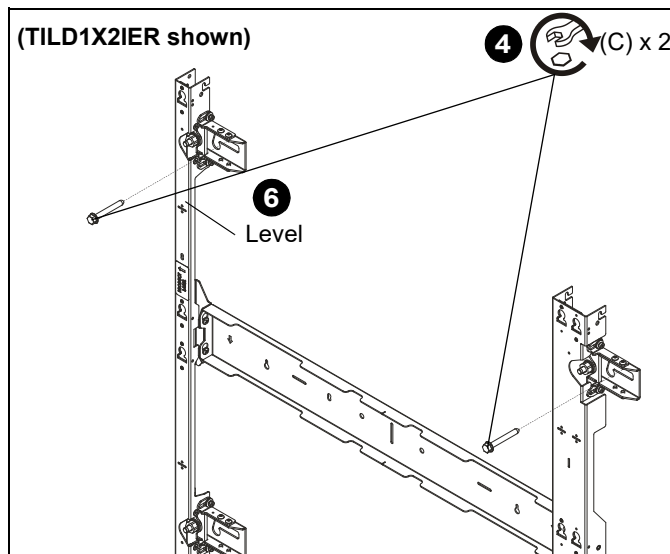

Figure 10
4. Install two lag screws (C) into wall, but do NOT completely tighten to wall. (See Figure 10)